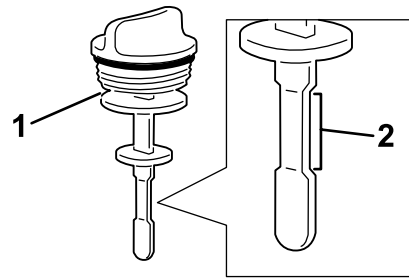

Figure 59
5. Remove the dipstick from the filler neck and check the fluid level. The fluid level should be within the safe operating range on the dipstick (Figure 59).